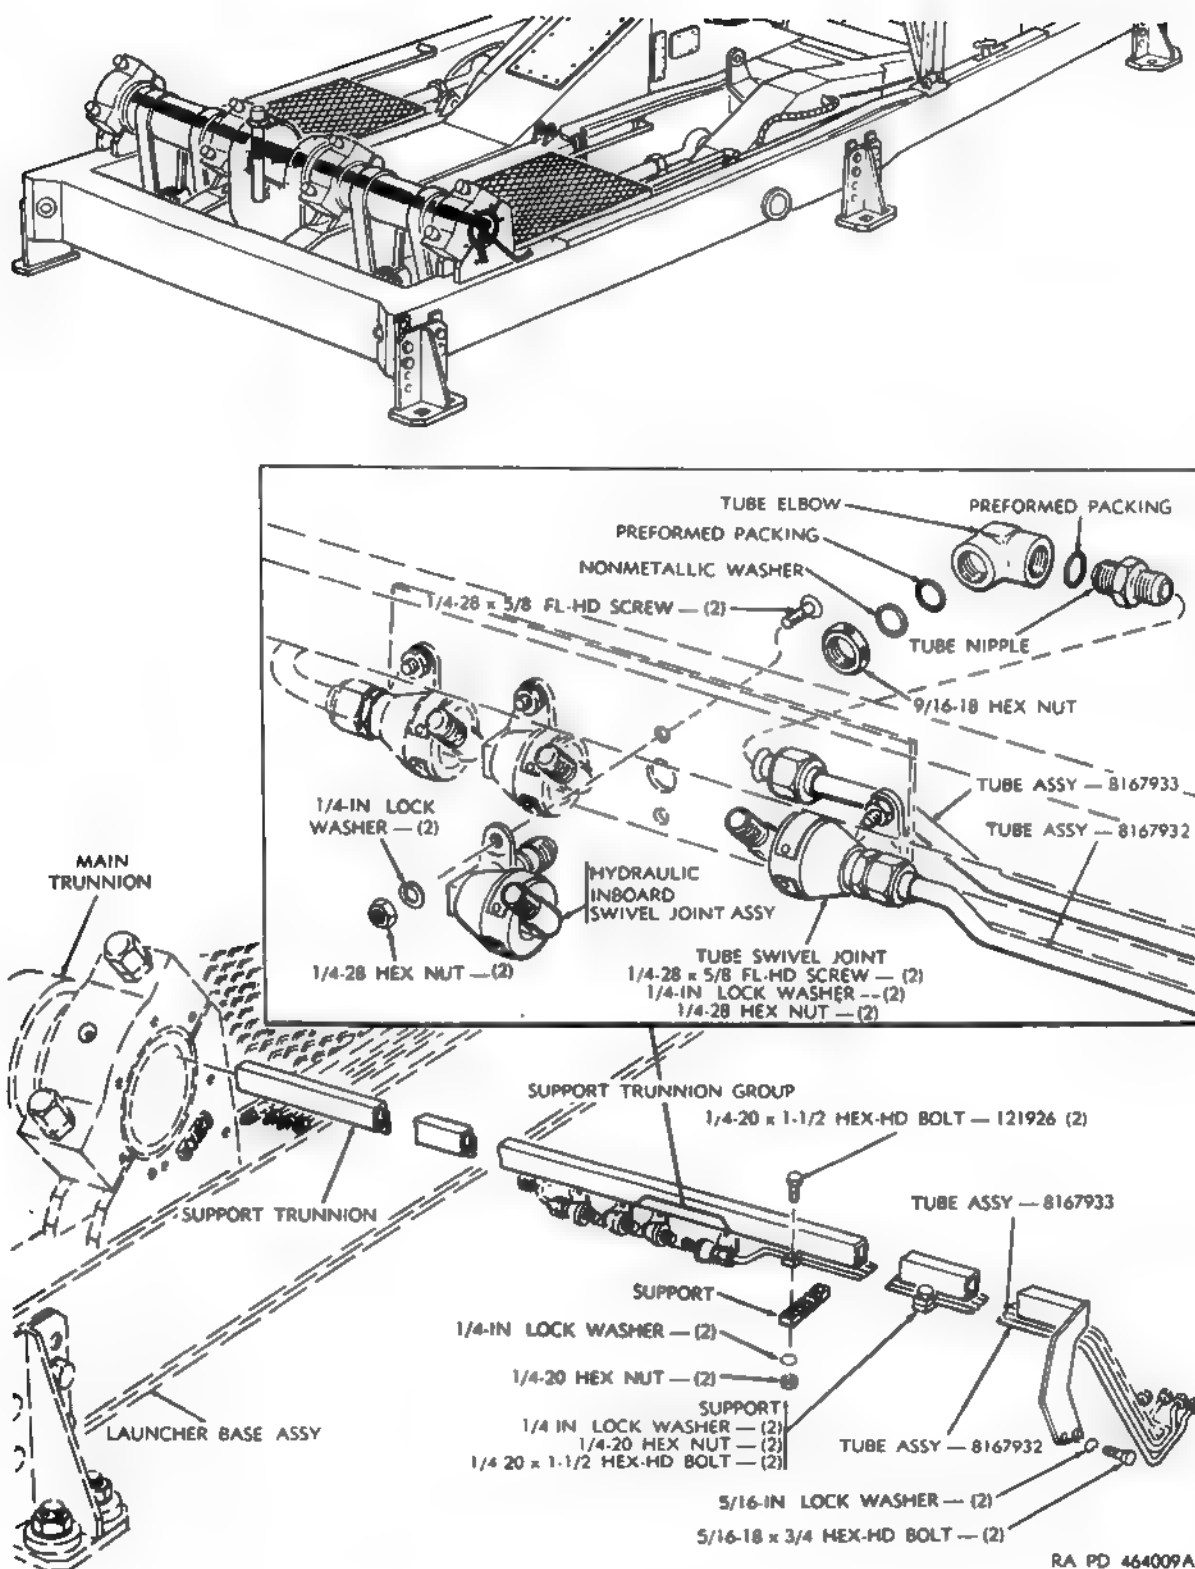

Figure 185. Locking wedge system hydraulic network—removal and installation—continued.
- (8) Disconnect the support trunnion group (fig. 185) at the right side.
- (10) Loop clamps installed on the cable assembly that are not accessible must be removed as follows:
- (a) Move the support trunnion group (fig. 185) out the right end of the main trunnion. The cable assembly (fig. 184) will not move, but the oversized loop clamps will slide over the cable assembly.
- (11) Remove the support trunnion group (fig. 185).
- (12) Remove the support to be replaced.
- (1) Install tube swivel joint assembly and hydraulic inboard swivel joint assembly as shown in fig. 185.
- (a) Slide support trunnion group (fig. 185) in main trunnion until first loop clamp (fig. 184) can be installed.